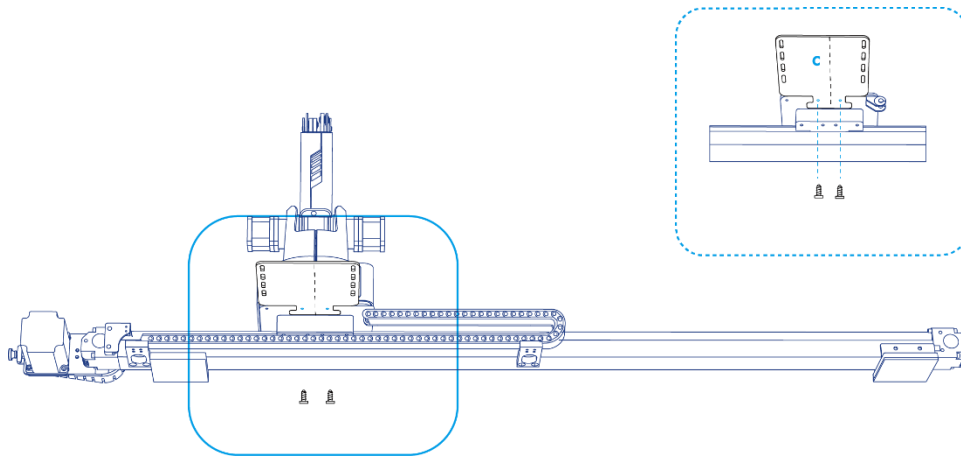

Figure 5.192 Fix plate **c**
1. Fix the plate **c** on the plate **a** with two M3*8 hexagon socket head cap screws, as shown in Figure 5.192.